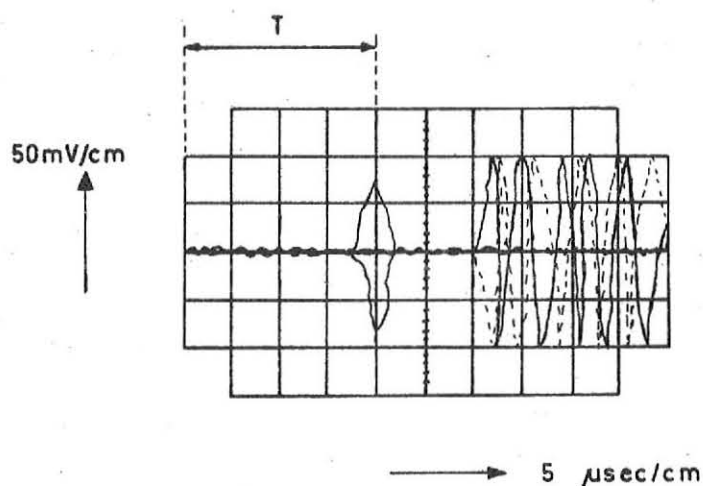

Figure 7-23
13. Positioning to track 005. (010)
18. When steps 14 and 16 have a different value, take the average deviation, in such a way that $T = 20 \text{ msec} \pm 3 \mu\text{sec}$, see fig. 7-23 as well head 0 as head 1.